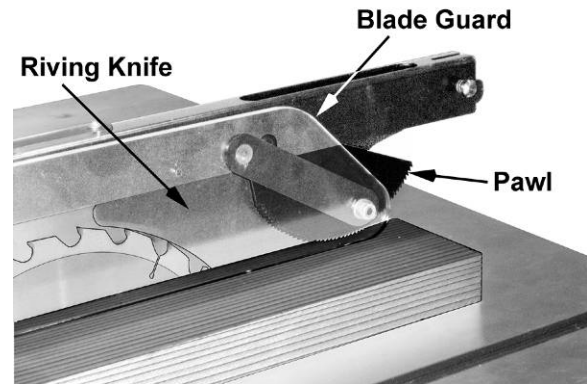

Figure 22
- As the machine receives use, the operation of the anti-kickback pawls should be checked periodically (Figure 22). If the pawls do not stop the reverse motion of a workpiece, sharpen all the points.